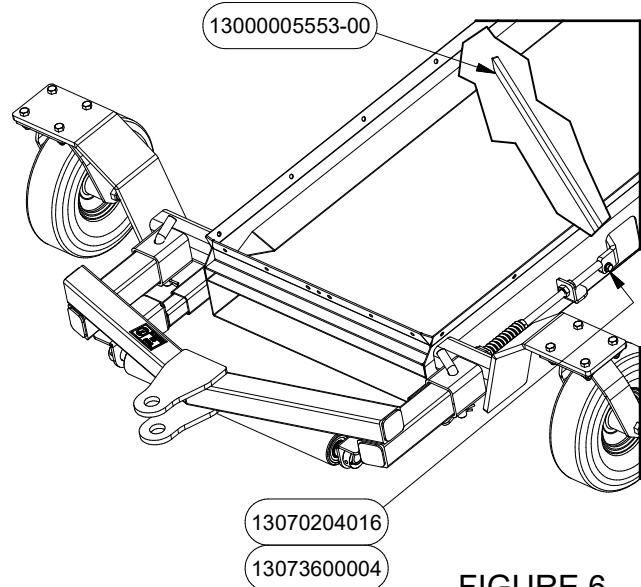

FIGURE 6
6. Install return scraper PN# 5553 in jump and secure on right side with bolt PN# 13070204016 and washer PN# 13073600004, see Figure 6. Bolt and nut are found in intake roller bolt bag PN# 7338. Intake roller bolt bag and return scraper are found in hardware box PN# 7341.